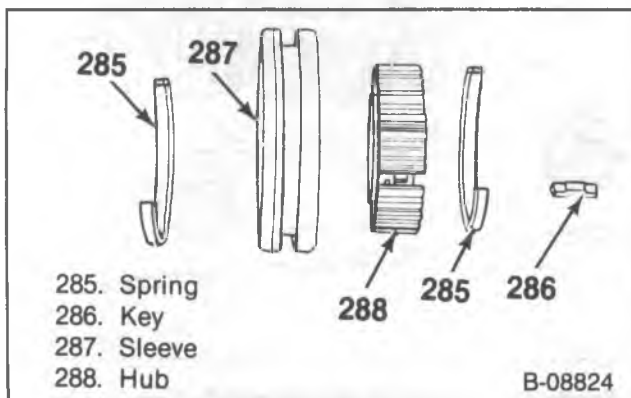

Figure 14 – Synchronizer Components
8. 3-4 synchronizer (205), (figure 14).